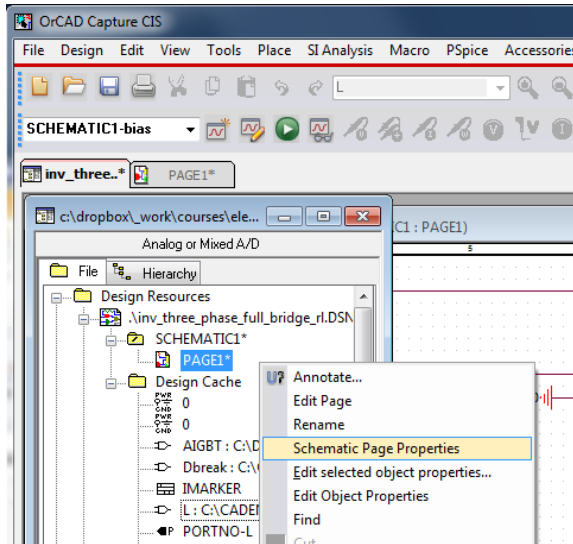
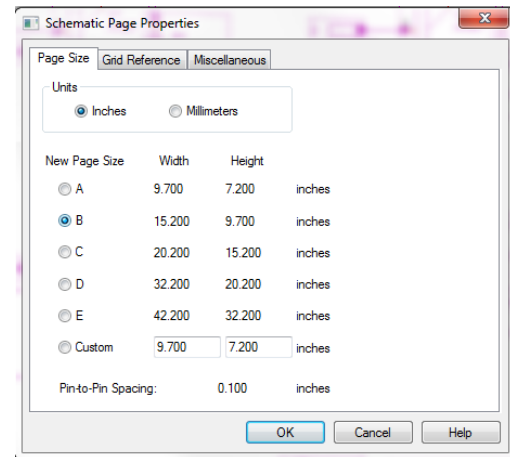

Figure 9
Figure 10
2. Open the schematic page and enlarge the page size to “B” (Figure 9, Figure 10).